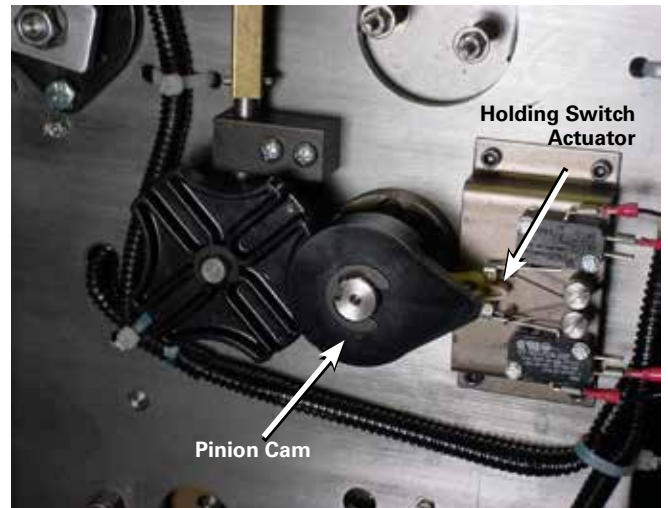

Figure 94. Neutral position for position indicator pinion cam and holding switch.
- C. The pinion cam is pointing to the right over the holding switch actuator. See Figure 94.